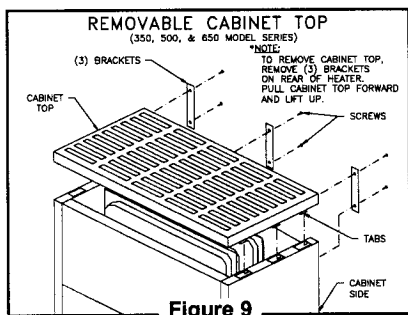

Figure 9
1. Remove three (3) brackets on rear of heater securing cabinet top to back plate.
2. Pull cabinet top forward and lift up. Reinstall cabinet top by reversing the procedures noted above. Refer to Figure 9.
**Note:** Take special care to engage the six (6) clips located on the bottom of the cabinet top into the top flange of heater sides.